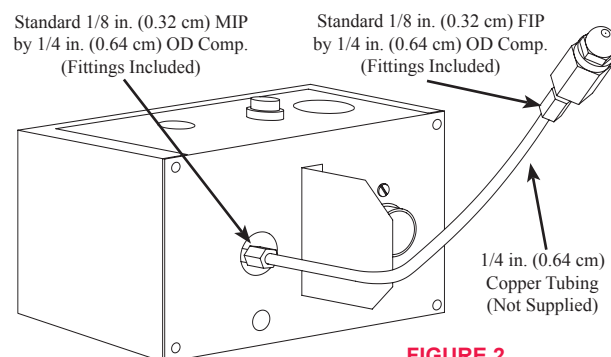

FIGURE 2
- If it is necessary to mount the spray nozzle further away from the humidifier (in order to move the nozzle further into the air stream for better absorption), remove the nozzle adapter and 45° fitting from the solenoid valve. Use the fittings supplied in the parts bag to relocate the nozzle using 1/4 in. (0.64 cm) copper tubing (not supplied). (See Figure 2, below, left.) **CAUTION: Do not allow copper tubing to come in contact with sharp edges or surfaces that may cause wear on the tubing.**